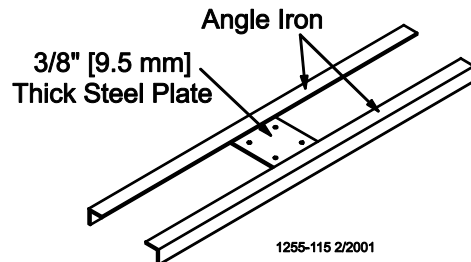

Figure 5. Optional Power Lift Winch support detail
1. Bolt the Power Winch, fully assembled, to the Power Lift Winch Support, either a 2" x 8" [50x200 mm] board that will span at least 3 rafters or a 3/8" [9.5 mm] thick steel plate welded to two pieces angle iron that are each long enough to span at least 2 rafters, using 5/16-18 hardware supplied in the Hardware Package. The brake mechanism will extend toward one side. See Figure 5.